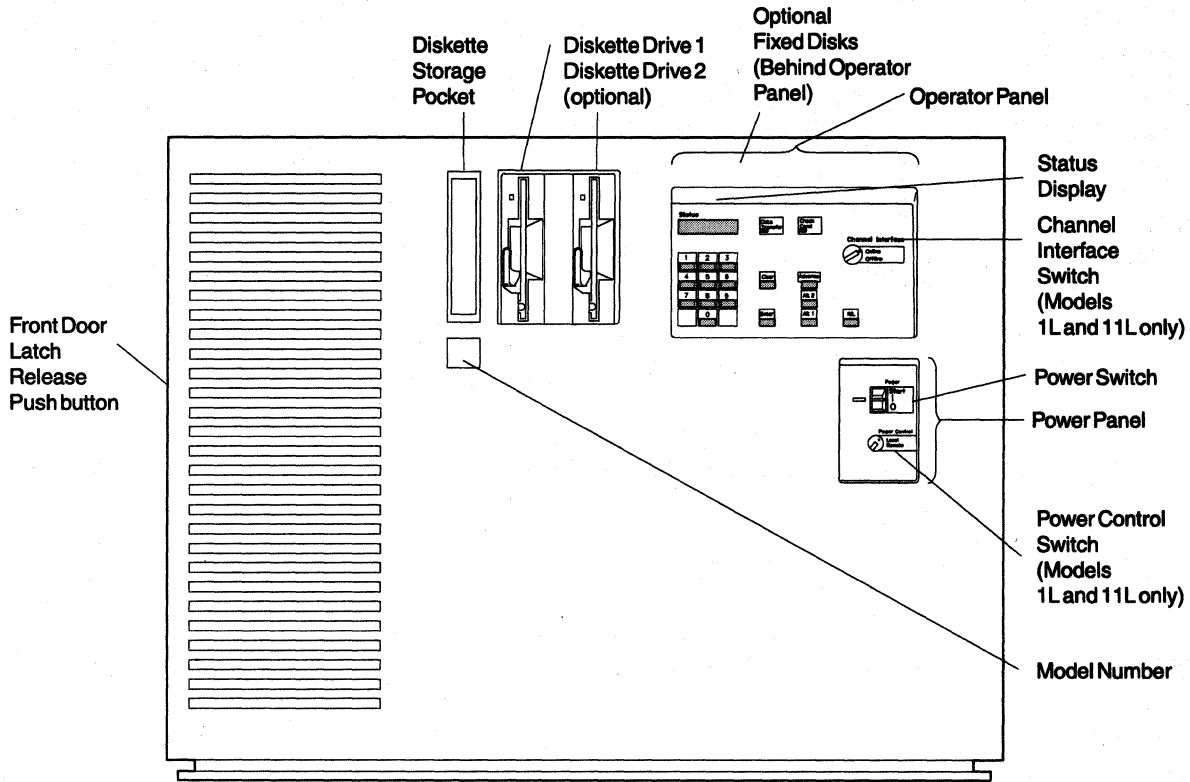

Figure 1-1. 3174 Models 1L, 1R, 2R, 3R, 11L, 11R, 12L, 12R, 13R, and 14R
- 1L, 1R, 2R, 3R, 11L, 11R, 12L, 12R, 13R, and 14R. See Figure 1-1 on page 1-4.